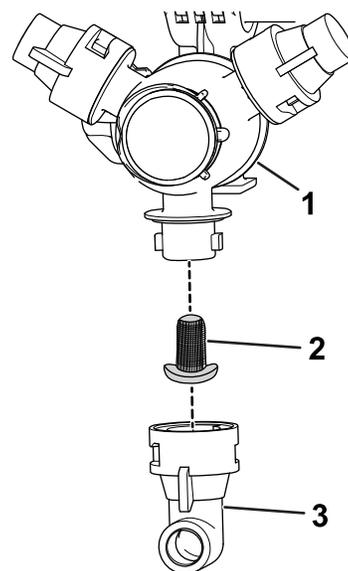

Figure 62
2. Remove the nozzle from the spray turret (Figure 62).
3. Remove the old nozzle filter (Figure 62).
4. Install the new nozzle filter (Figure 62).
5. Install the nozzle onto the spray turret (Figure 62).